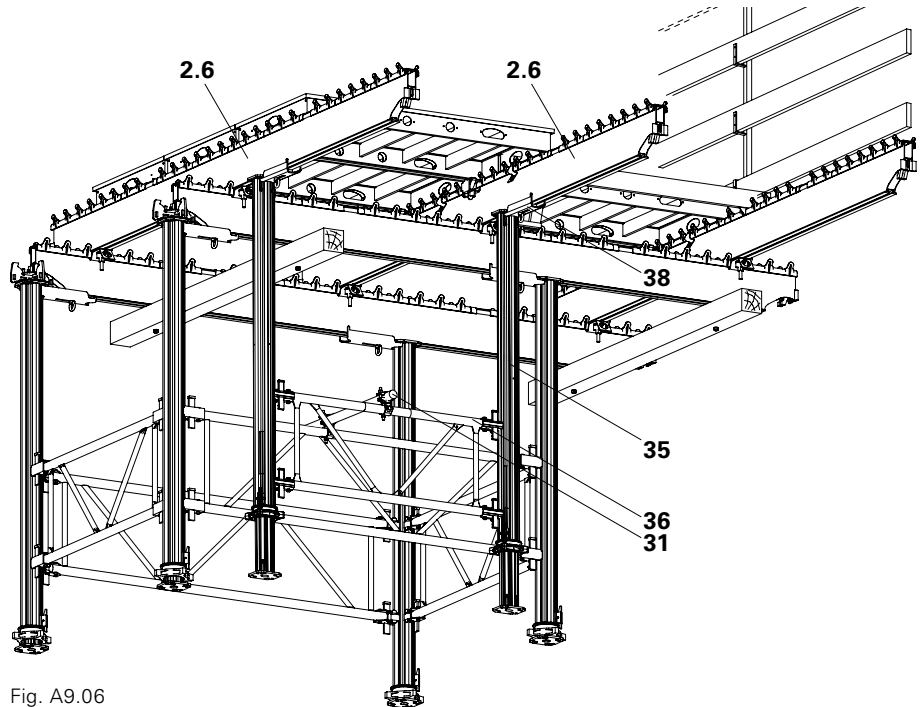

Fig. A9.06
2. Fix 2 MULTIPROP Props MP (35) 1.50 m from the cantilevered girder end using the Table Connector STV (38).
3. Brace the MULTIPROP Props MP with MULTIPROP Frame MRK 150 (36).
4. Connect the Frames MRK 150 to the Frames MRK 225 (36.1) with at least one scaffold tube L = 2.25 m (31) and three scaffold couplings. (Fig. A9.06)